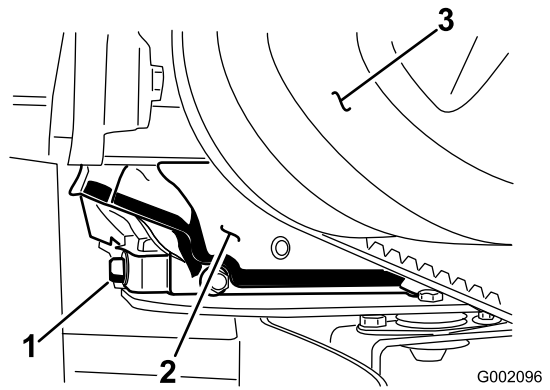

Figure 40
6. Remove the drain plug (Figure 40).
5. Align a drain pan with a 1.5 L (1.6 qt) capacity under the drain plug (Figure 40).